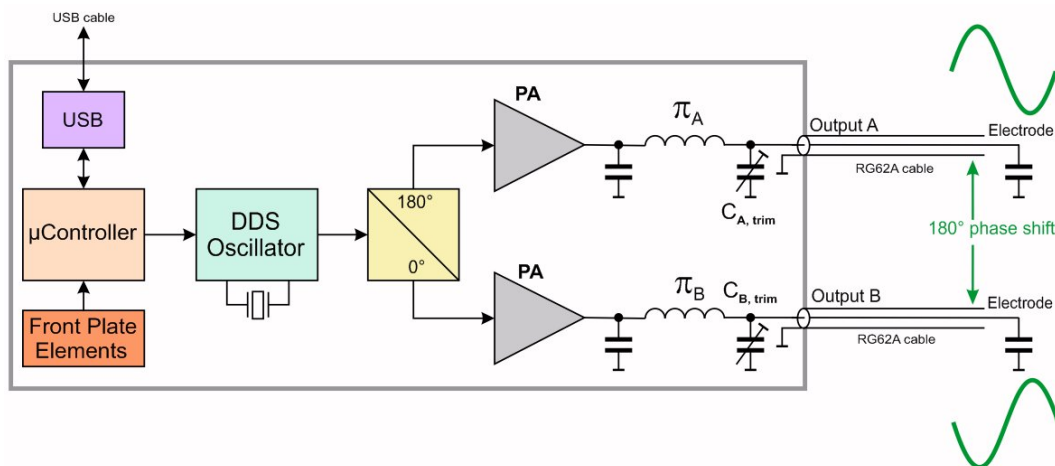

Fig. 2a: Block diagram of the internal structure, illustrating the functional principle.
The following picture (fig. 2a) displays a block diagram of the internal structure, illustrating the functional principle. A digital oscillator provides a sine wave of freely adjustable and precise frequency. An inverter circuit creates the inverted signal, or in other words a  $180^\circ$  shift. These two signals are fed into power amplifiers (one for each channel) of choosable amplification factor, followed by a resonant circuit. The latter magnifies the obtainable voltage (about 20Vpp out of the power amplifier, PA) roughly by a factor of 50. Thus, voltages of a few hundred volts to about 1kV (peak-peak values) are created, suited for Paul Ion Traps or Quadrupole Structures. For balancing possible asymmetries, trim capacitors are provided (rear side) to balance different capacitive output loads, thus obtaining equal output levels on both outputs.
The device features an offset DC input, by which the output voltages can be shifted. Voltages being applied to these input lines are added to the AC signal (RF) of the outputs (this feature is not shown in fig. 2a/b).